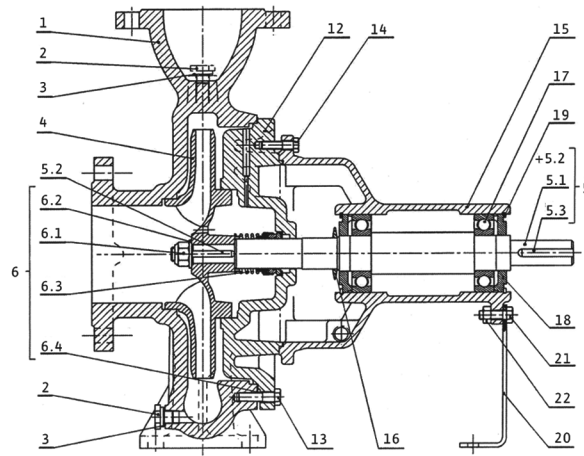
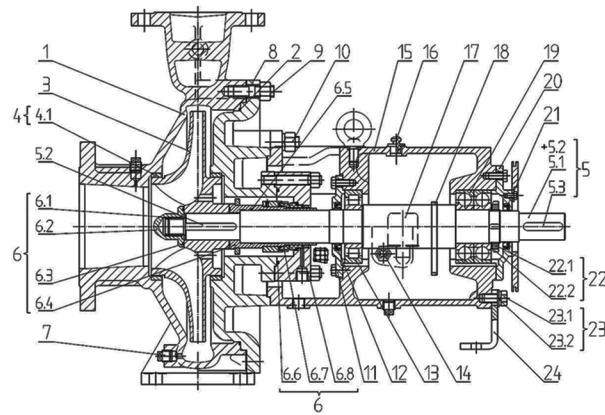
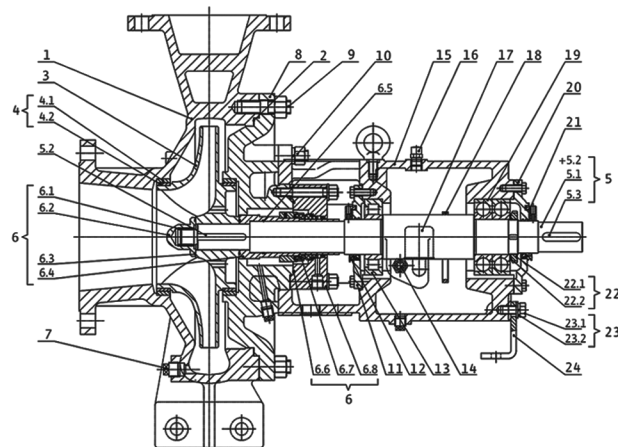

Fig.11
Fig.12
Fig.13
- Mechanical seal part number (figure 11, figure 12 and figure 13).
9.2.1 NX pump (fig.11)
9.2.2 NX-A pump (fig.12)
9.2.3 NX-B pump and NX-C pump (fig.13)